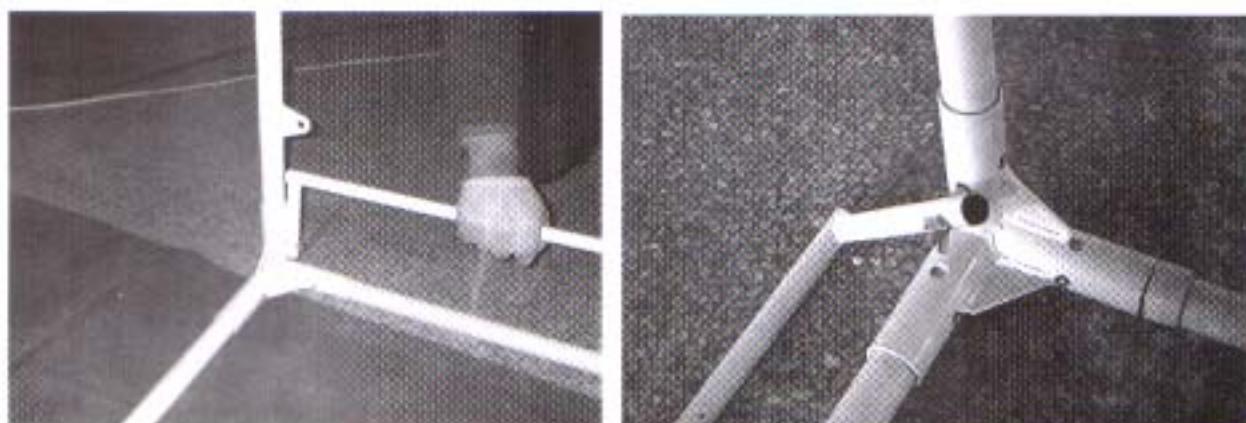

Figure 10: Door Flap
10. Refer to Figure 10 to install front and rear door flap. The flaps are removable as shown in Figure 10. They are used to tighten the doors against strong wind.